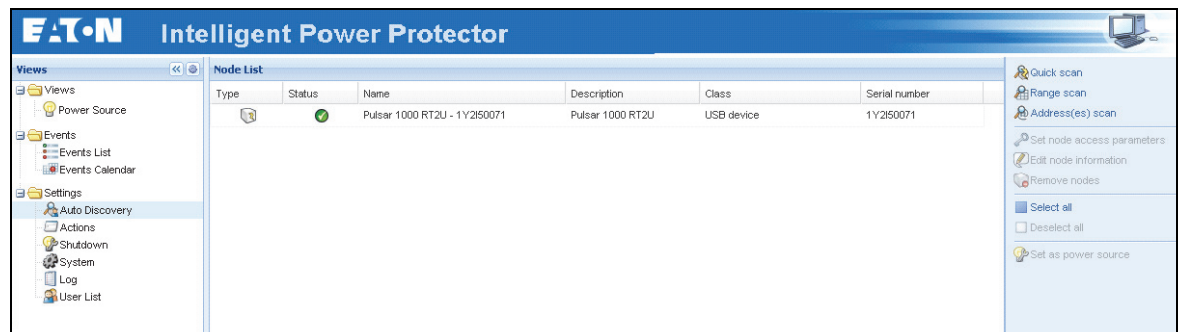

Figure 8. Eaton IPP UPS Auto Discovery
2. The first discovered UPS connected through RS-232 or USB is automatically assigned as the Power Source. Identify the Power Source by the green status symbol  (see Figure 8).
2. From the right-side panel, select a discovery method (see Figure 8):